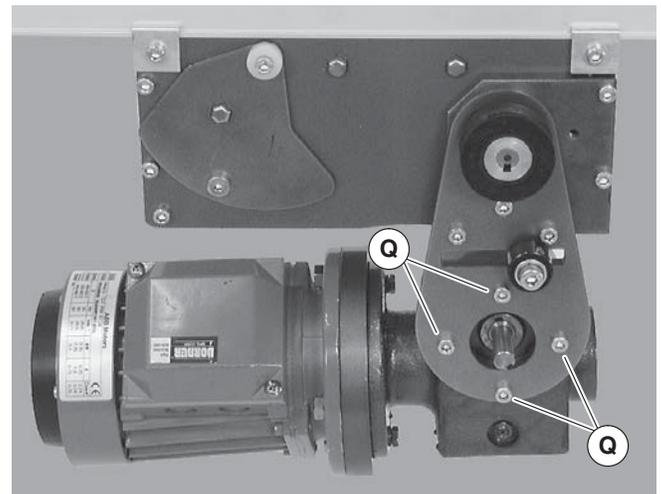

Figure 15
4. Remove four (4) gear reducer mounting screws (Figure 15, item Q). Remove gearmotor.
- Install gearmotor to mounting bracket and tighten screws (Figure 15, item Q) to 103 in-lb (12 Nm).